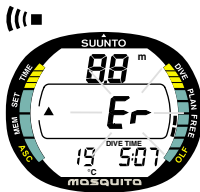

Fig. 3.32. Display after exceeding the 5min freediving time limit. Flashing Er and upward arrow.
To prevent the possibility of accidentally using the Free-mode during a SCUBA dive the Free mode is limited to 5 minutes. If the 5 minute limit is exceeded the user is warned by an audible alarm, activated backlight, upward arrow and a blinking error warning Er. After 6 minutes in the Free mode the Mosquito goes into Error mode, and the Er warning is permanently displayed (Fig. 3.32).
- the 5 minute time limit in Freediving mode is exceeded. An error warning Er and a upward pointing arrow will appear. After 5+1 minutes the Mosquito goes into Error mode (Fig. 3.32).